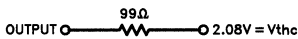

**Figure 1a**
- Figure 1a test load used for all parameters except tEA, tER, tpZX and tpXZ. Figure 1b test load used for tEA, tER, tpZX and tpXZ.